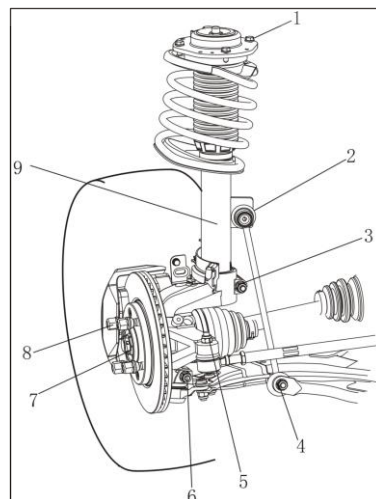
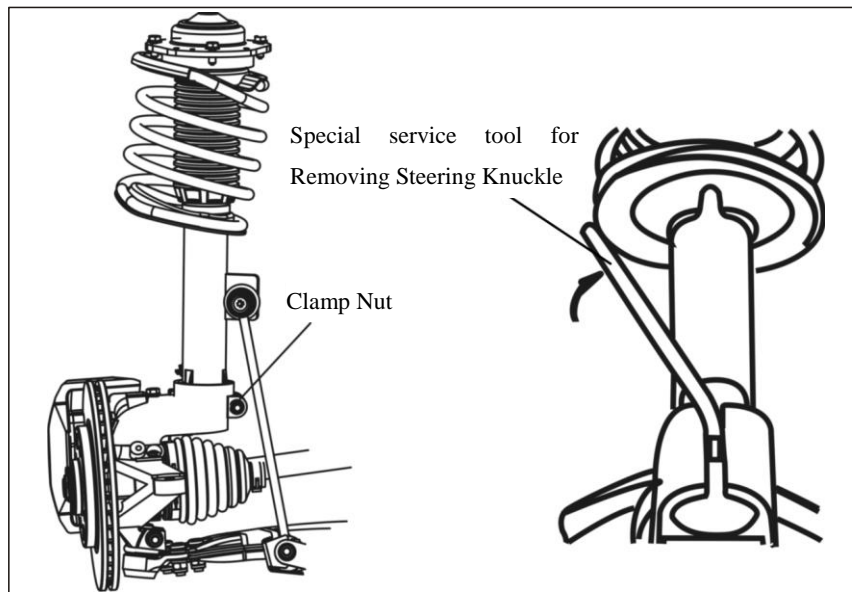

Figure 4-11 Front Suspension
Figure 4-12 Remove Steering Knuckle
(6) Remove the brake lining, screw off two fixing bolts from the brake caliper, and then remove the brake caliper.
(7) Remove the clamp nut 2 which is used to connect the longitudinal tie of stabilizer bar with the suspension damper from the center of suspension damper, (as shown in Figure 4-11), and remove the stabilizer bar.
(8) Screw off the three clamp nuts from the ball joint of rocker arm, remove the ball joint, and separate the rocker arm from the steering knuckle.
(9) Remove the drive shaft from one side of the steering knuckle, and make sure that the medial drive shaft maintain is in the differential, so as to avoid the outflow of lubricant from differential.
(10) Screw off the fixing bolt 1 which is used to fix the end of suspension damper from the steering knuckle (as shown in Figure 4-11), insert the special service tool into the opening on steering knuckle seat ring (as shown in Figure 4-12), pull it to loosen the steering knuckle hole and damper cylinder, and then pull out the steering knuckle.